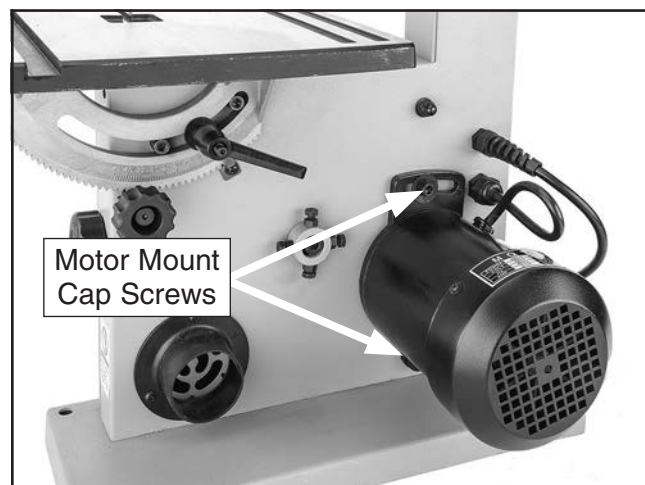

Figure 51. Location of motor mount cap screws used for adjusting belt tension.
2. Loosen motor mount cap screws shown in **Figure 51**.
3. Loosen motor mount cap screws (see **Figure 51** on **Page 42**).